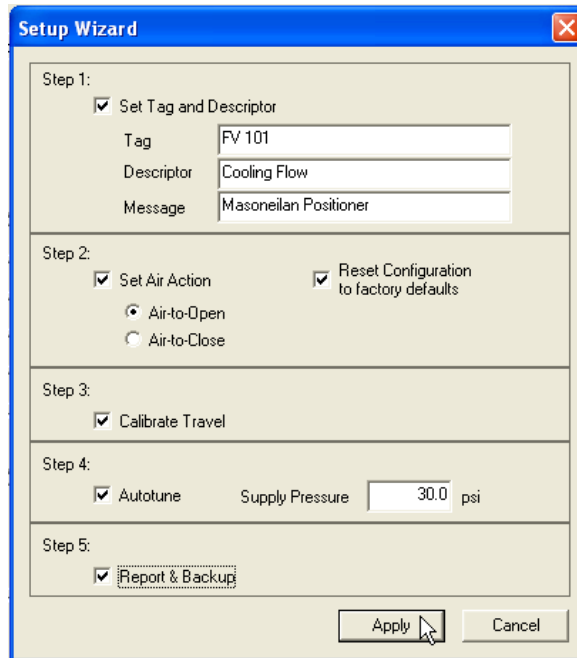

Figure 59 Applying Setup Wizard Selections
1. After you have selected the desired steps click **Apply** (Figure 59).